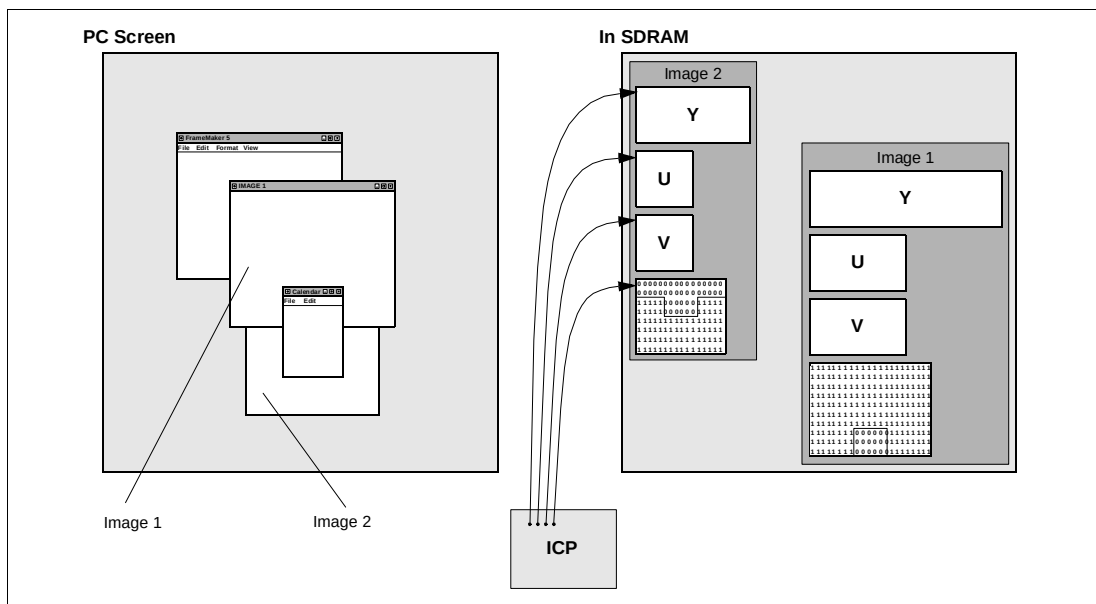

**Figure 2-3. ICP - Windows on the PC screen and data structures in SDRAM for two live video windows.**
**Figure 2-3** illustrates a possible display situation and the data structures in SDRAM that support ICP operation. On the left, the PC video screen has four overlapping windows. Two, Image 1 and Image 2, are being used to display video generated by PNX1300. The right side shows a conceptual view of SDRAM contents. Two data structures are present, one for Image 1 and the other for Image 2. **Figure 2-3** represents a point in time during which the ICP is displaying Image 2.